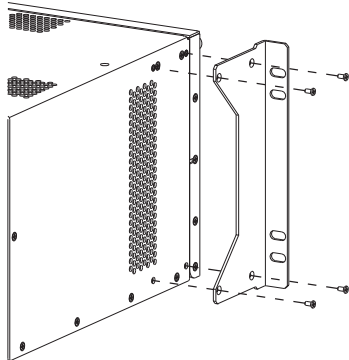

FIG. 8 Attach rack ears
1. Attach rack ears per FIG. 8.